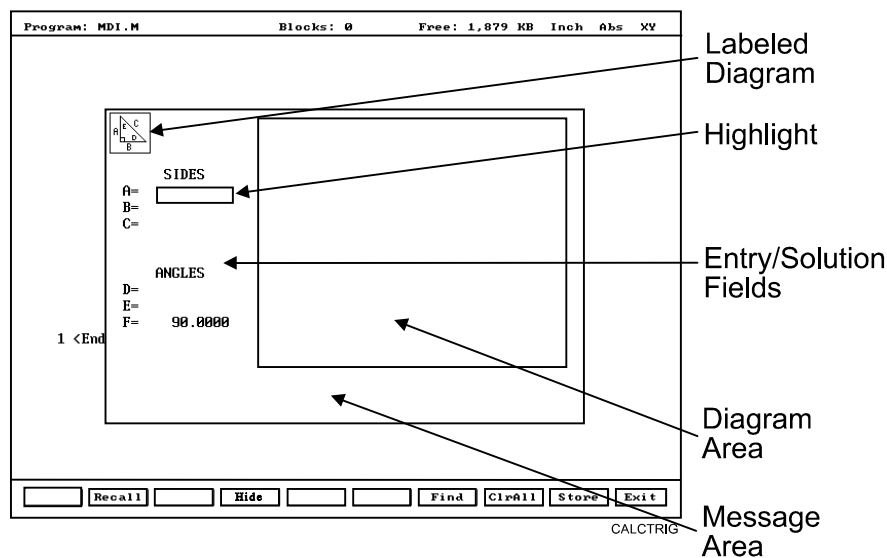

Figure 6-3, Right Triangle Calculator Screen
2. Highlight the Triangle Calculator template and press **ENTER** to activate the Triangle Calculator. Refer to **Figure 6-3**.